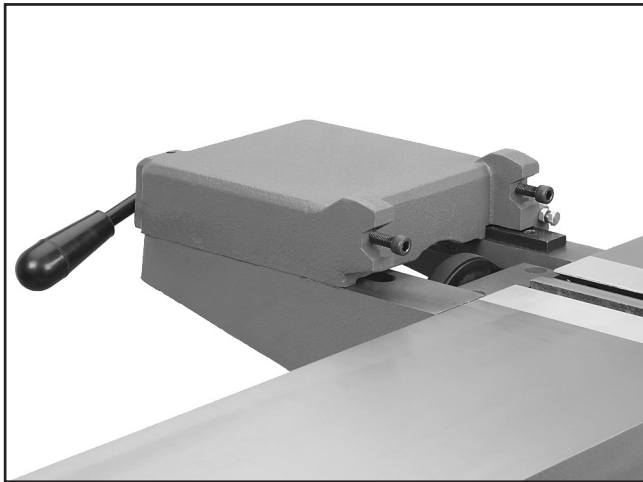

Figure 13. Fence carriage installed.
1. Attach the fence carriage to the back of the table base (see **Figure 13**), but do not fully tighten the bolts yet.